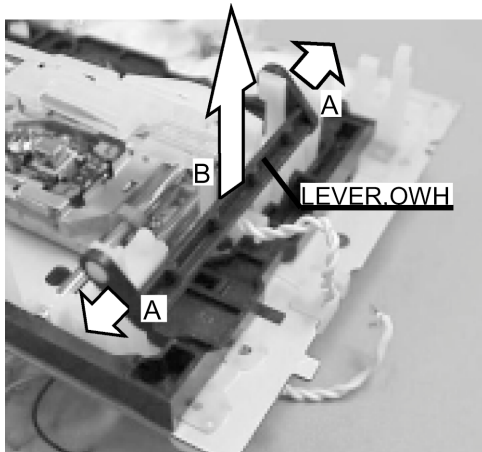

Fig.5-1
- 1) Remove the LEVER, OWH in the direction of the arrow B while opening it in the direction of the arrow A. (Fig. 5-1)